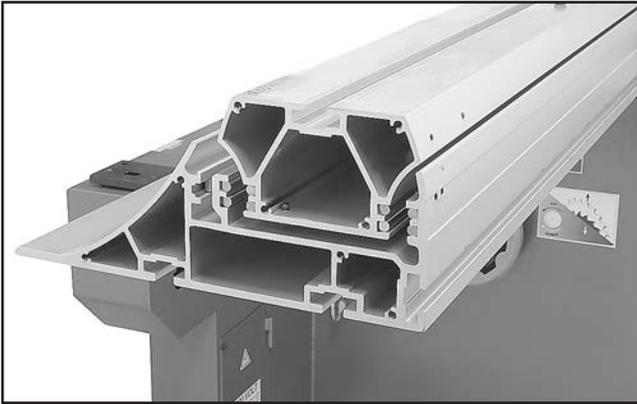

Figure 17. Sliding table saw upside down.
8. Turn the sliding table assembly upside down, as shown in **Figure 17**.